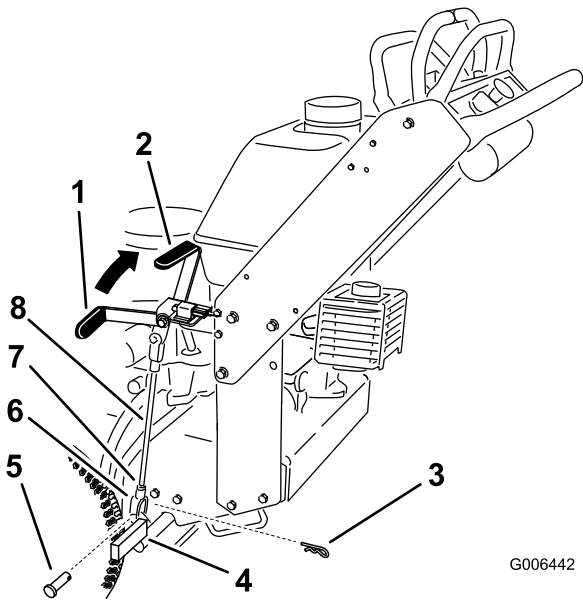

Figure 36
Note: When the brake is engaged, the brake handle should be in the 1 o'clock position (Figure 36).
5. Loosen the top and bottom jam nuts (Figure 36).
6. To adjust the brake, remove the hair pin cotter and clevis pin from the lower brake lever (Figure 36).
7. Rotate the brake rod in the yokes. To tighten the brake, lengthen the rod between the yokes. To loosen the brake, shorten the rod between the yokes (Figure 36).
8. Secure the yoke to lower brake lever with the hair pin cotter and clevis pin (Figure 36).
9. Tighten the top and bottom jam nuts (Figure 36).